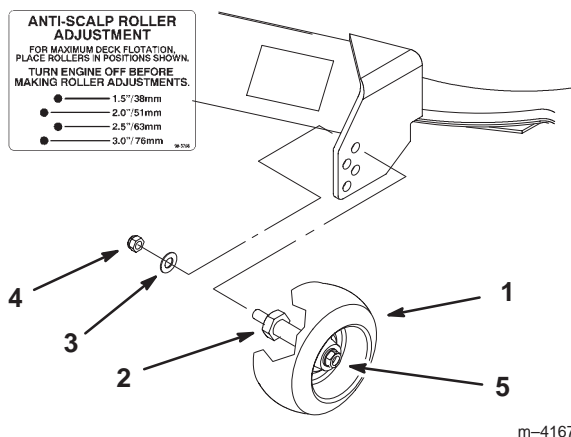

Figure 17
2. After adjusting the height-of-cut, remove the nut and washer while holding the stud with a wrench (Fig. 17).
Note: Do not remove the wheel nut and washer (Fig. 17).
3. Select a hole so that the gage wheel is positioned to the nearest corresponding height-of-cut desired (Fig. 17).
4. Reinstall the stud nut and washer (Fig. 17).